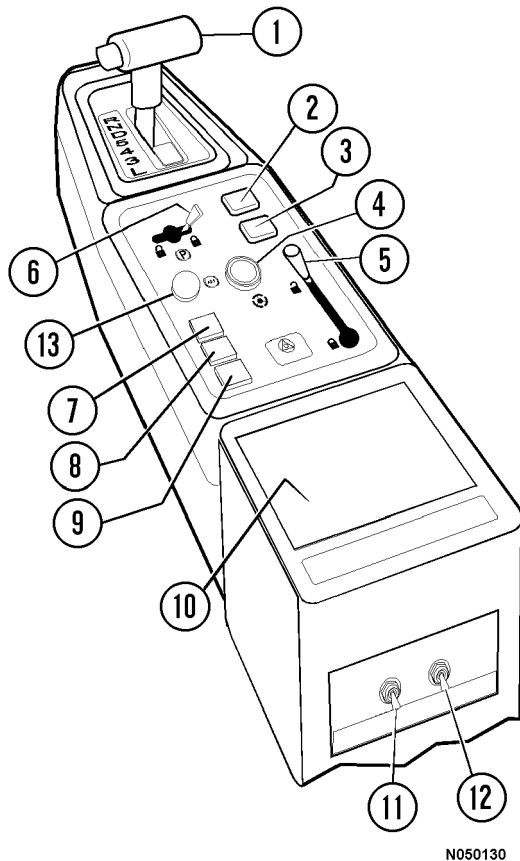

FIGURE 3-2. CENTER CONSOLE
Transmission Range Selector (1, Figure 3-2)
Shift Limiter Switch (2, Figure 3-2)
Economy / Power Mode Switch (3, Figure 3-2)
Emergency Steering Switch (4, Figure 3-2)
Emergency Brake Lever (5, Figure 3-2)
- Immediately after stopping, move parking brake lever (6, Figure 3-2) to the APPLIED/LOCKED position, then place blocks around all wheels to secure the machine.
Parking Brake Valve Lever (6, Figure 3-2)
The following items (7, 8, 9, 11, & 12, Figure 3-2) relate to the engine electronic fuel control system.